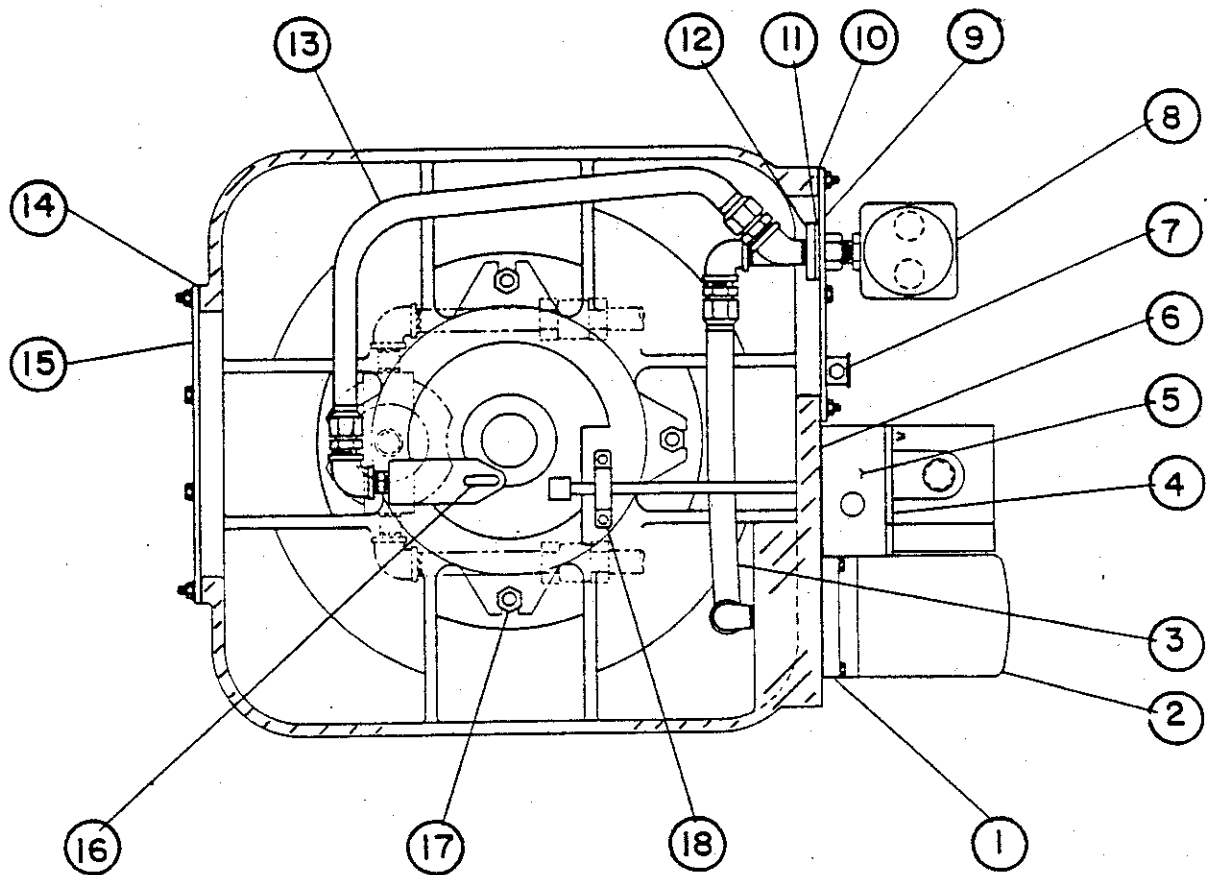

Figure 7. Hydroconstant Cross Section
3. Allow unit to cool to 90°F (32°C). Remove access plate (15, Fig. 7). Check and verify proper hose connection sequence (3 and 13, Fig. 7).